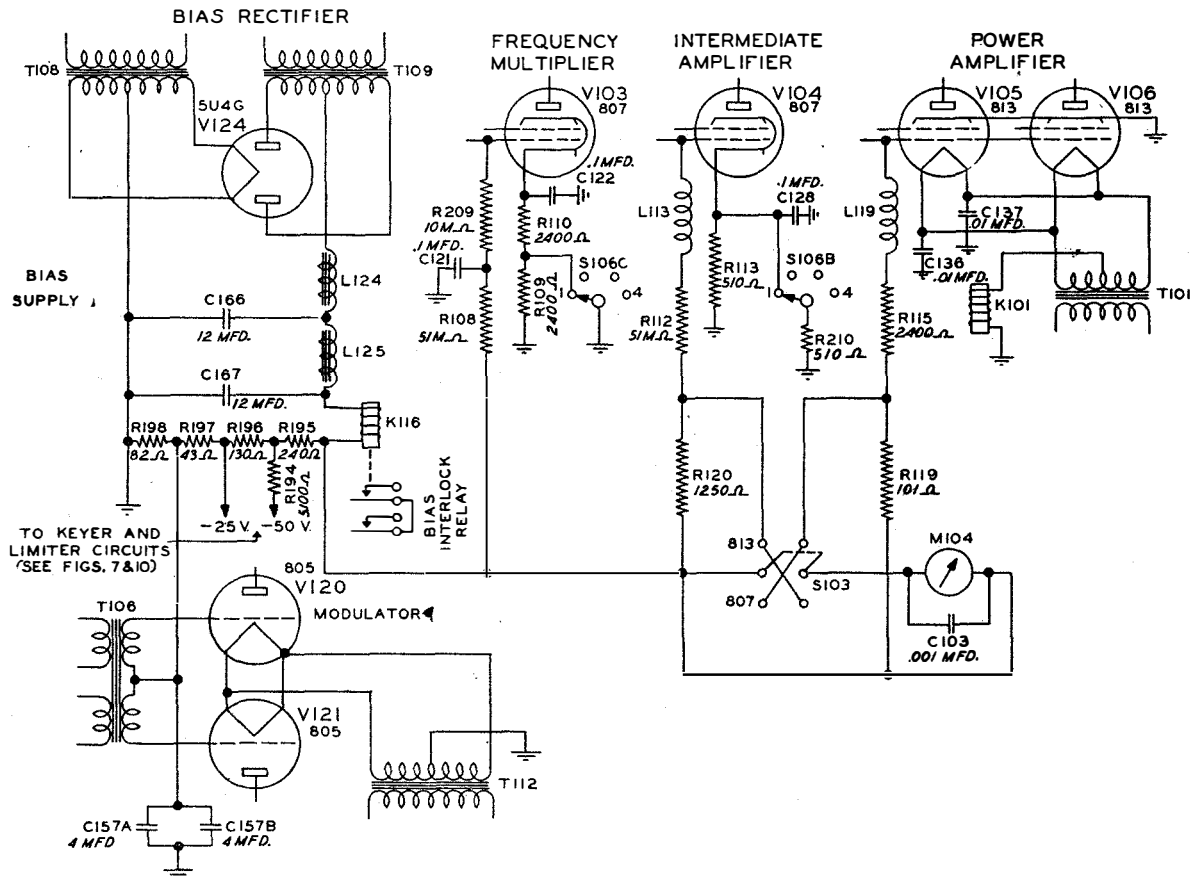

Fig. 3 Bias System (Dwg. No. 500 2655 00C)
**2.5.1. Bias Supply.** Refer to Fig. 3. The bias supply employs a Type 5U4G high vacuum full-wave rectifier tube (V124). Both filament and plate voltages are applied to V124 when the line switch, S120, is operated if the LOCAL-REMOTE switch, S114, on the transmitter panel, is in the REMOTE position, or by the operation of the FILAMENT start switch, S115, when the switch S114 is in the LOCAL position. Both the bias rectifier filament transformer, T108, and the bias rectifier plate transformer, T109, primaries are fused. A two section choke input filter reduces the ripple voltage to a negligible value. The coil of the interlock relay, K116, is connected in series with bleeder resistors, R195, R196, R197 and R198 across the output of the filter. When the rectifier tube, V124, reaches operating temperature, the interlock relay is operated by the current that flows through the bleeder. Relay K116 must be operated before plate voltage can be applied to any of the r-f or audio tubes in the transmitter. The bleeder is tapped to provide the bias voltage necessary for application to the grids of the frequency multiplier, intermediate amplifier, power amplifier, modulator, limiter and keyer tubes.